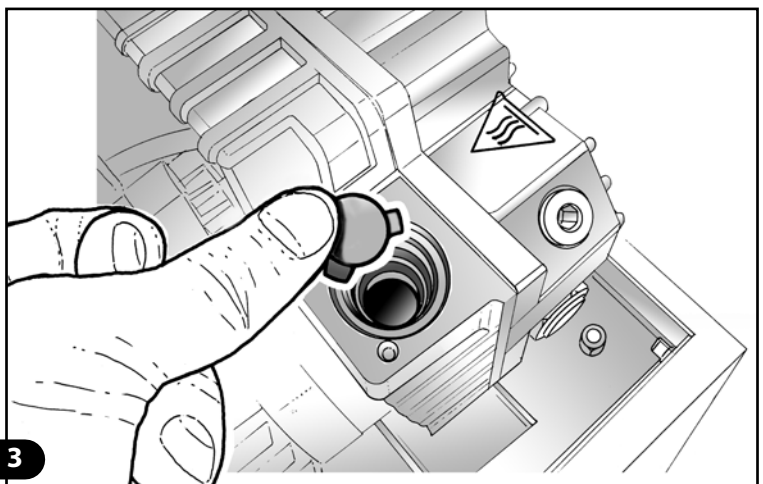

**Fig. 2**
- 4) Remove first the rubber seal and then the steel one. Check the condition of the accessible intake section and clean it if necessary with a cloth soaked in alcohol (Fig. 2).